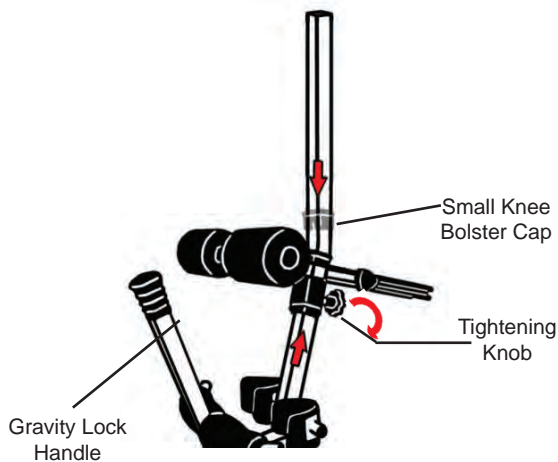

Figure 2A
- Position the Bolster Foam Pads on the Knee Bolster Assembly to face the Gravity Lock handle side of the Main Shaft, and with preassembled Large Bolster Cap positioned downward. Slide the Knee Bolster past the bend in the Main Shaft. (See Figure 2A)
- Slide the other Knee Bolster Cap onto the Main Shaft and into the Knee Bolster Housing. Firmly press both caps so they fit snugly into the housing. Rotate the Tightening Knob to securely hold the Knee Bolster Assembly. (See Figure 2A)